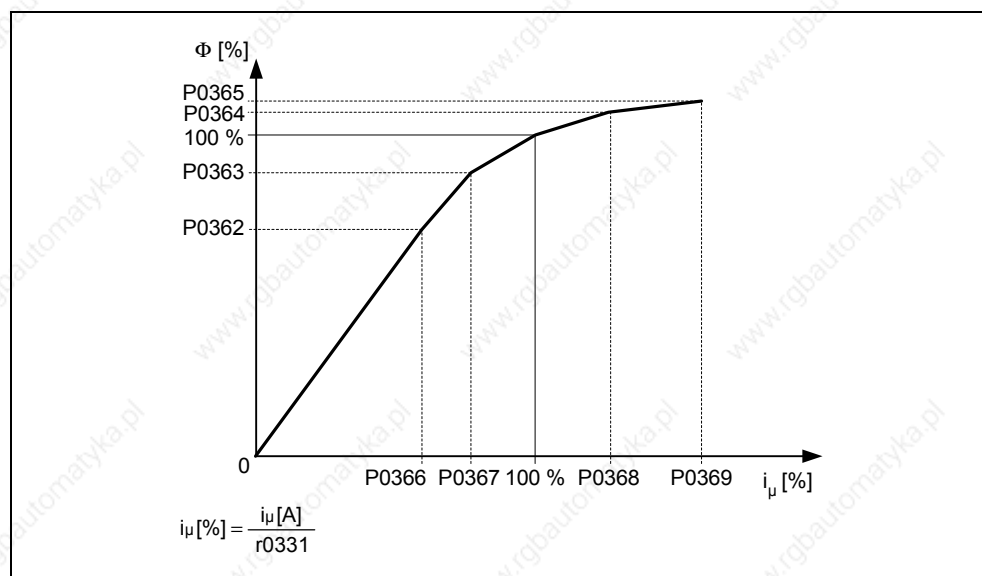

Fig. 3-27 Magnetizing characteristic
- Magnetizing characteristic (refer to Fig. 3-27) → P1910 = 3